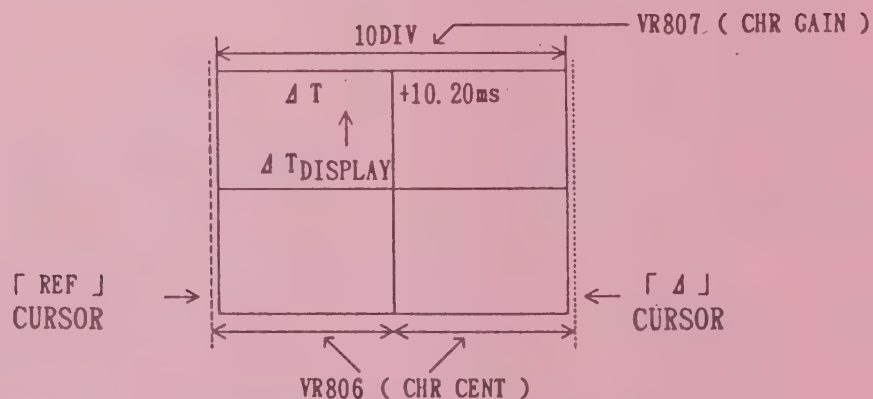

Fig. 9. Cursor Positioning
6. X AXIS CHR CENT Adjustments (See Fig. 9)